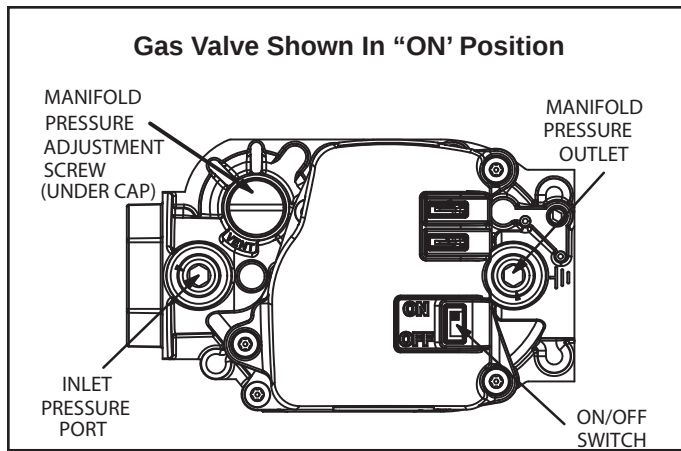

Figure 62.
6. Move gas valve switch to OFF. See Figure 62.
8. Move gas valve switch to ON. See Figure 62.